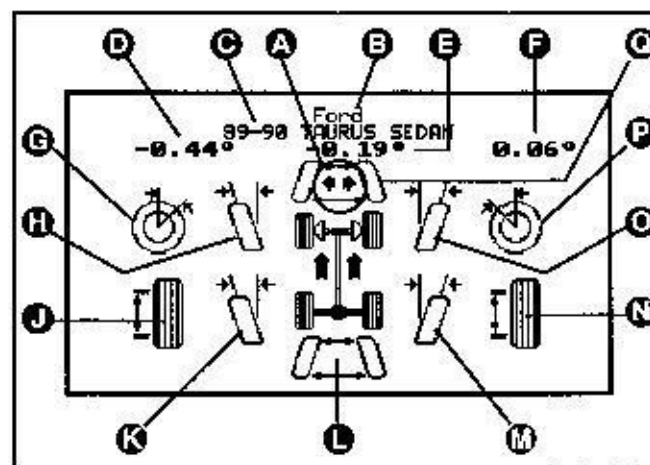

Figure 2-14
1. From the *Models Menu* or the *User Specification Menu*, press OPTION. The screen shown in Figure 2-14 will appear in display.